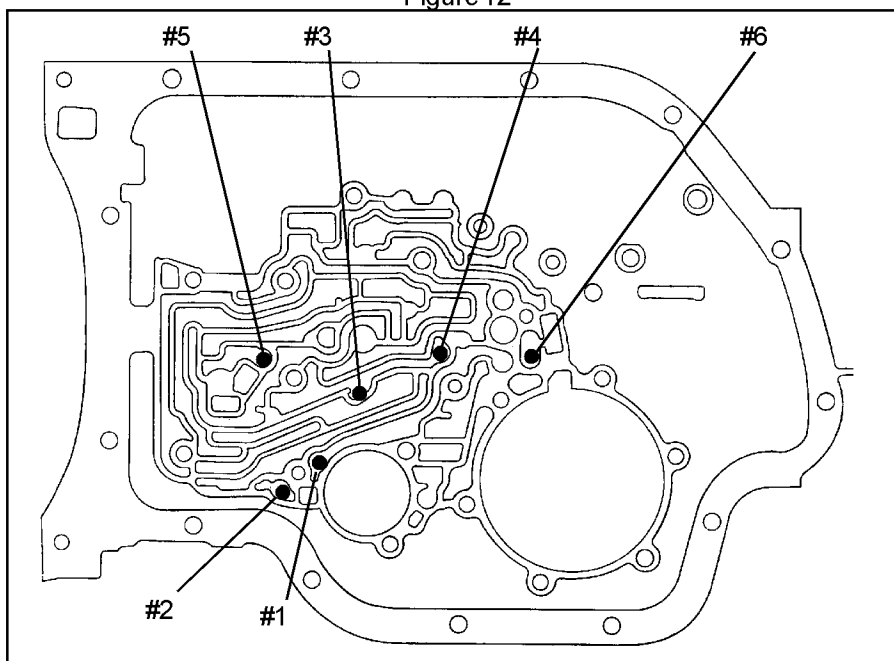

Figure 13
**STEP 10.** Check Ball Placement: Install check balls in the locations shown in **Figure 13** as follows: